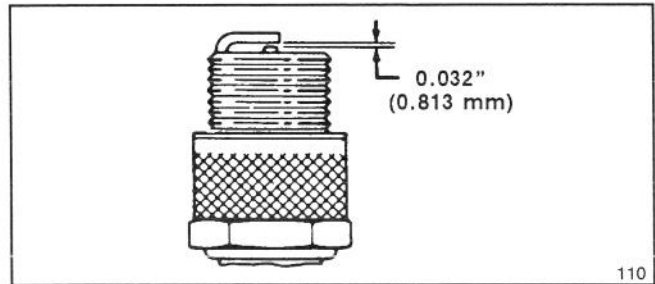

Figure 16
3. Set air gap at 0.8 mm (0.032") (Fig. 16). Install correctly gapped spark plug and gasket seal. Tighten plug firmly to 20 N·m (15 ft-lb).